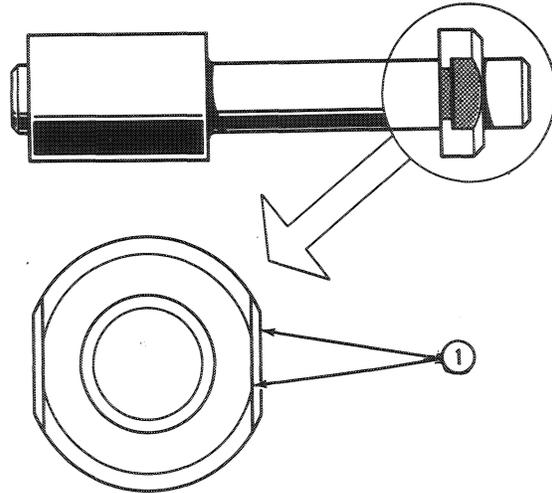

Figure 33
7. Check the relief valve for score marks and be sure it is free to move within the bore; the valve should have two flats on each side at the location shown in Figure 33.